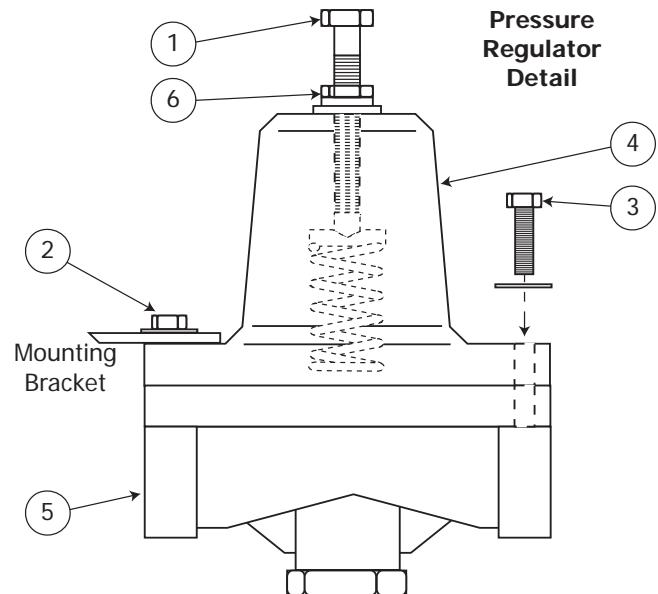

Figure 5. Water Pressure Regulator
(Figure 5 except as indicated)
- b. Back out the adjusting screw (Figure 5, 1) all the way and remove it from the regulator.